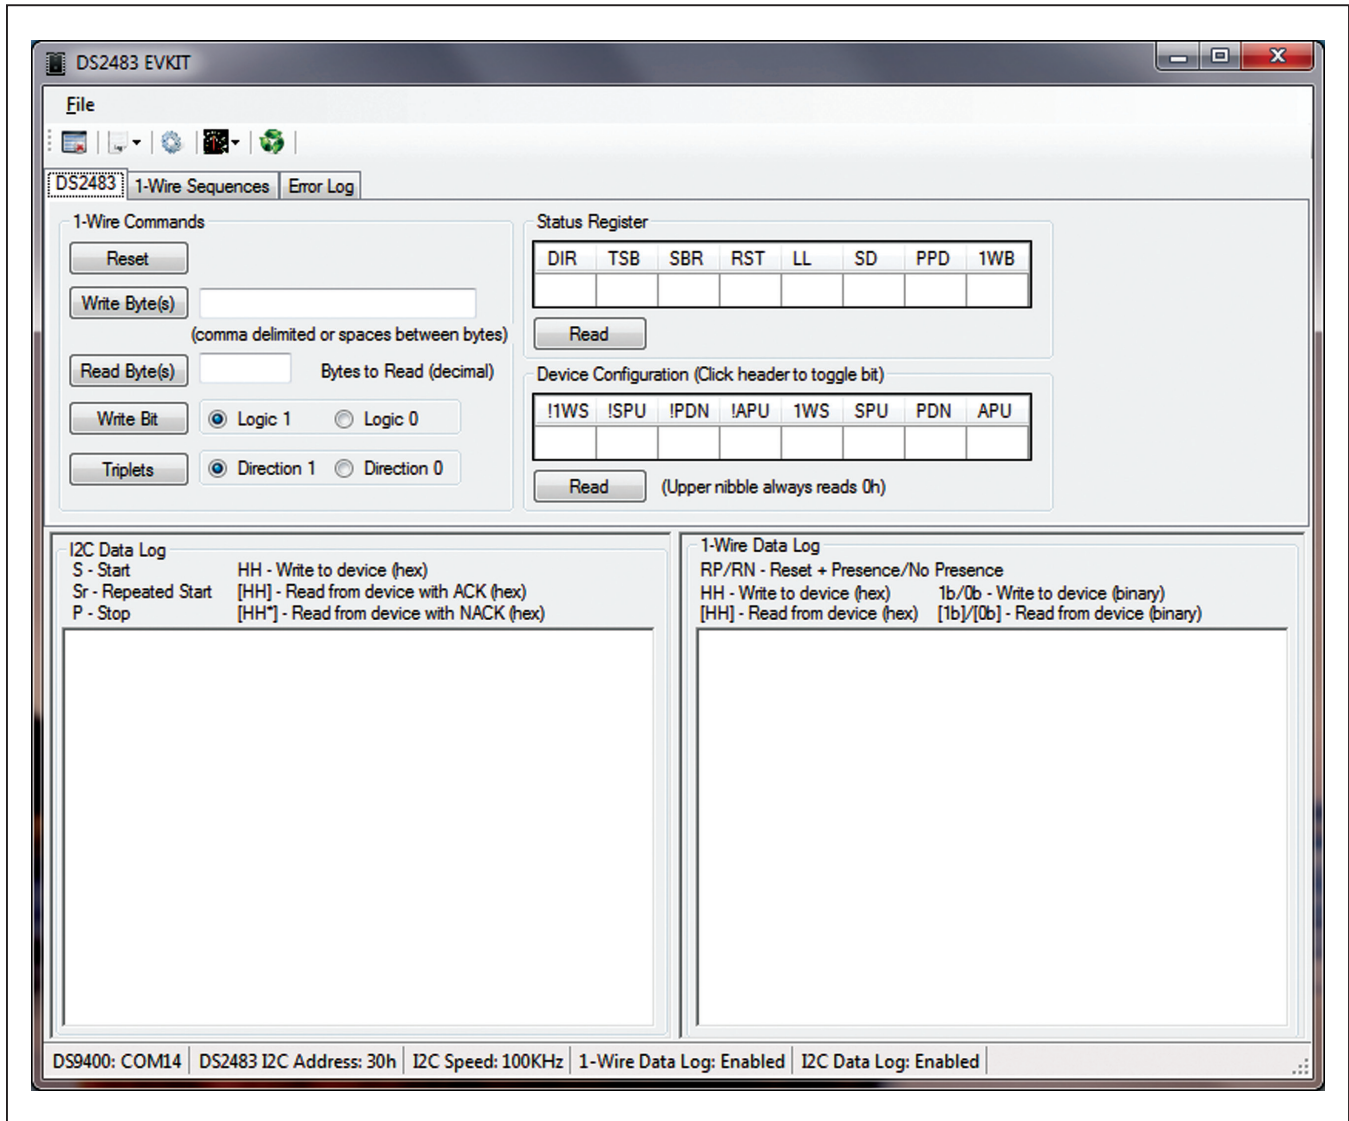

Figure 4. DS2483 EVKIT Main Window
- 7) The DS2483 EV kit software detects if the PC has the required .NET Framework 2.0 files. If the files do not exist, the program prompts to download them from the web. Otherwise, the program will install and display the **DS2483 EVKIT** main page (Figure 4).
Figure 4 shows the evaluation software's main window. This window consists of three main tabs: **DS2483**, **1-Wire Sequences**, and **Error Log**. The **I2C Data Log** and the **1-Wire Data Log** group boxes are shown regardless